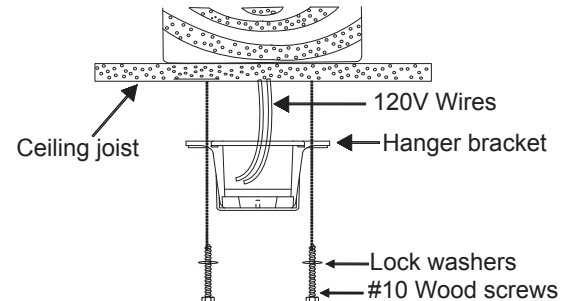

Fig. 7
**Step 4A.** Secure the mounting bracket directly to a joist from the building structure. Use only the appropriate wood screws and lock washers included with your fan. (Fig. 7)
**CAUTION: The hanger bracket must be installed directly to the building joist using the two wood screws and washers provided. (Fig. 7)**